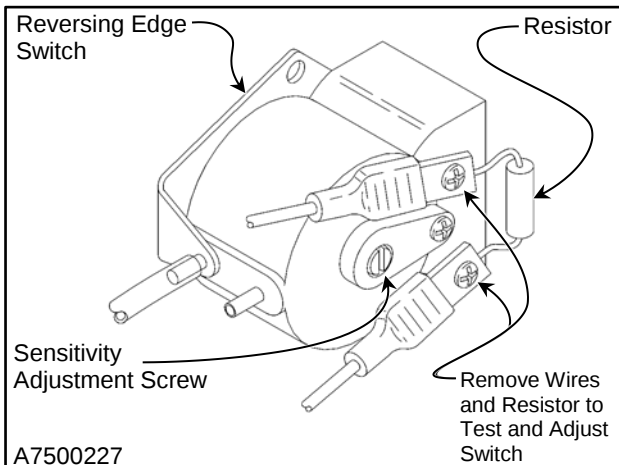

Figure 34
1. The reversing edge switch is a normally open contact. The PVC hose is on the lower air input post. To adjust the switch, first remove the resistor from the contact terminals and attach an ohmmeter across the two terminals. (See Figure 34)
2. Turn the sensitivity adjustment screw clockwise until continuity is achieved. Then turn the sensitivity screw two full turns counterclockwise for a standard setting. Some doors may require a further adjustment counterclockwise. (See Figure 34)